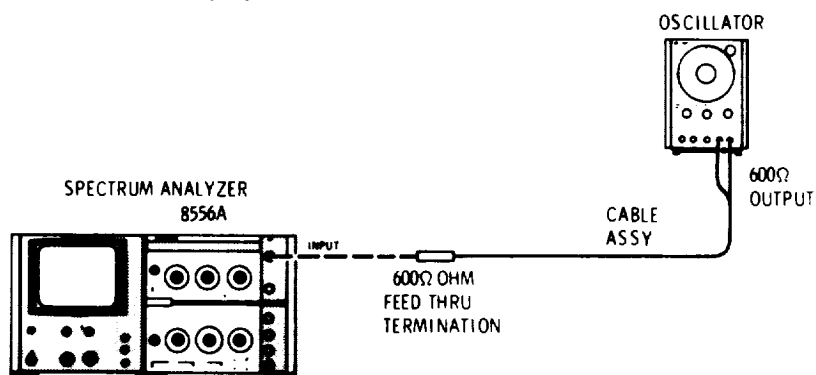

Figure 4-9. Residual FM Test Setup
1. Connect equipment as shown in Figure 4-9, connecting the oscillator to analyzer INPUT through the 600 Ohm Feed Thru Termination.